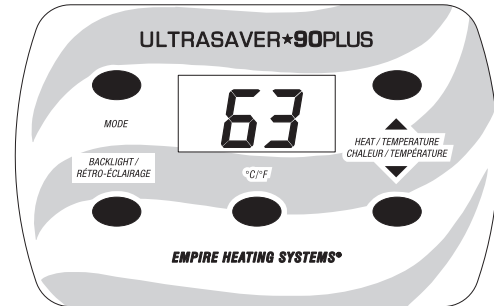

Figure 8
1. To operate the wall furnace in Local (thermostatic) mode, press the Mode Select button on the wall furnace display panel three times from the off mode. The display panel will show the current room temperature. See Figure 8.